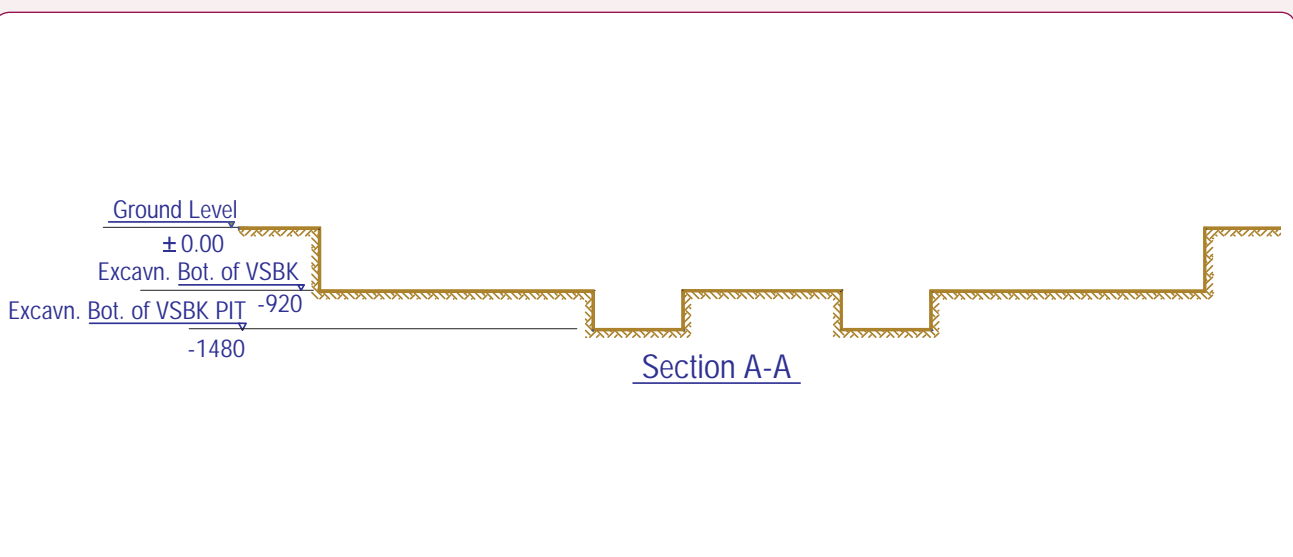

Figure 1: Foundation of a VSBK
The reference drawing (Refer Figure 1) is therefore not a standard that can be followed for all situations. It is strongly recommended to consult
- The foundation base must be levelled and rammed properly and the pit should be excavated vertically. If the excavation is very deep or the soil is non-cohesive, the excavated wall must have some gentle slope to avoid the falling of the wall, but the excavated pit at the bottom should not be less than that mentioned in the Figure 1.